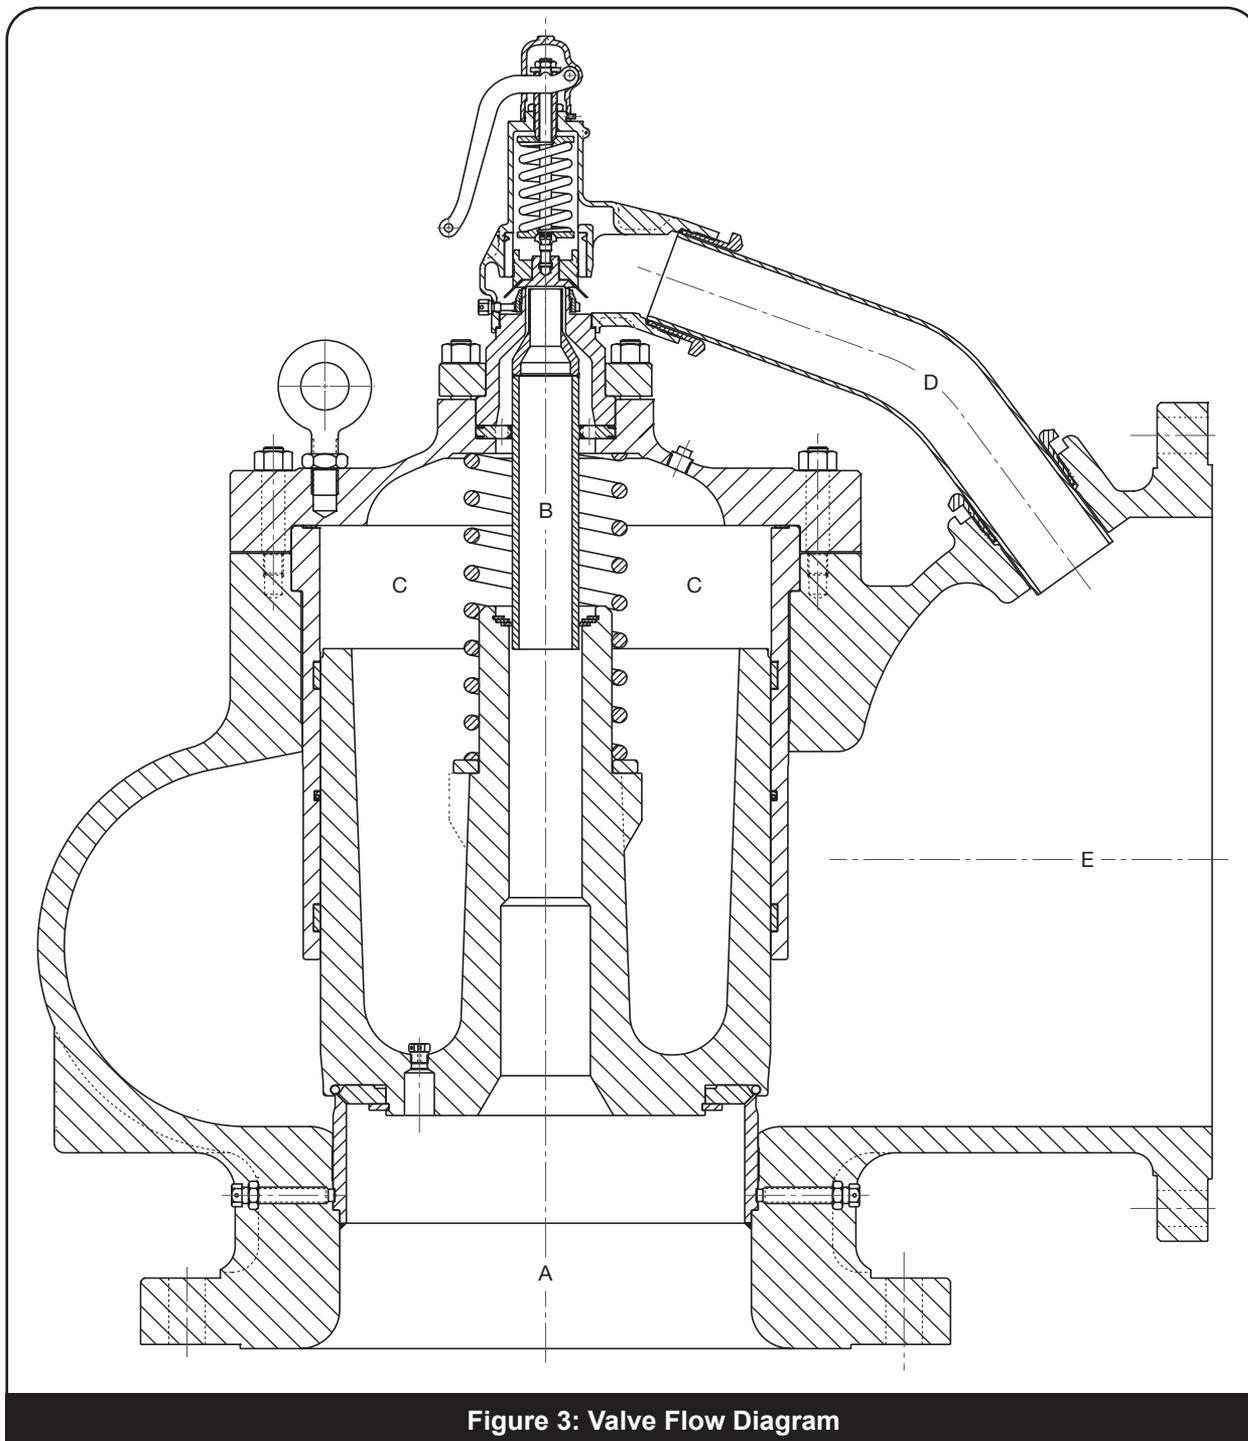

Figure 3: Valve Flow Diagram
1. With an appropriate tool and counterclockwise rotation, remove Tube Fittings (43A) from Main Valve Base (1) and Bonnet (29A)
3. Remove six Bonnet Stud Nuts (45) from Pilot Flange (21) and raise pilot valve and flange from Bonnet Studs (44).
4. Remove pilot valve Base Gasket (52)
5. Remove Sensing Unit (17) and also the Lower Gasket (52)
Refer to Figure 3 for the following: Remove cotter pin and Lever Pin (38) and Lifting Lever (33). Unscrew the Cap Lockscrew (39) and remove the Cap (37). Remove the Cap Release Nut (35) and Release Locknut (36).